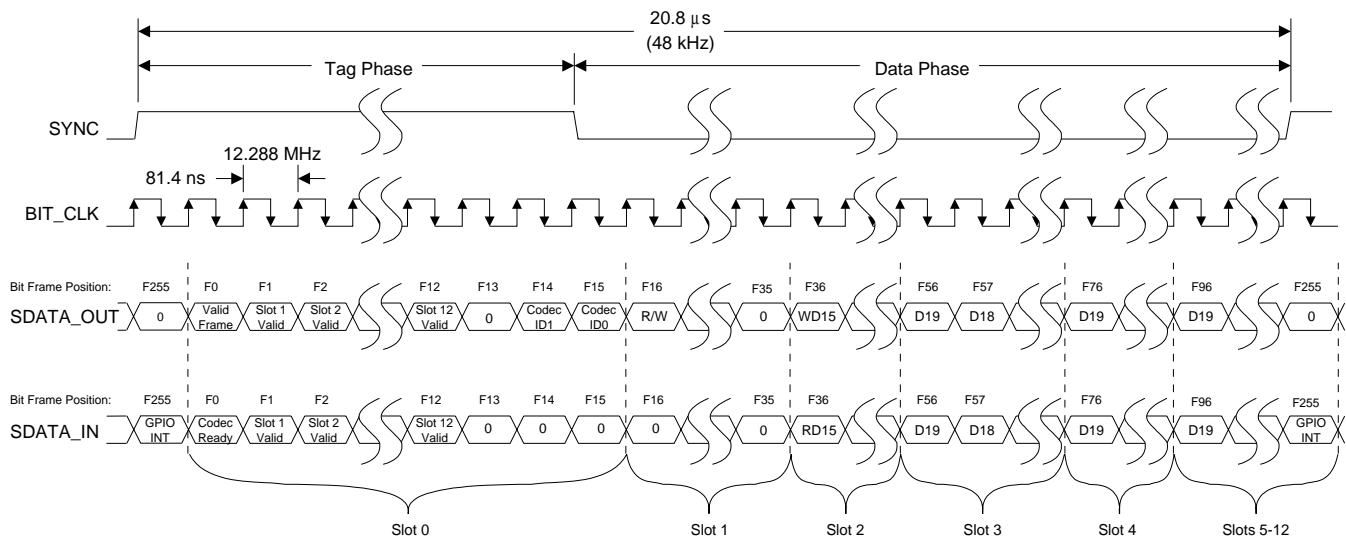

Figure 9. AC-link Input and Output Framing
The controller synchronizes the beginning of a frame with the assertion of the SYNC signal. Figure 9 shows the position of each bit location
In the serial data output frame, data is passed on the SDATA_OUT pin to the CS4202 from the AC '97 controller. Figure 9 illustrates the serial port timing.
- $\overline{R/W}$ Read/Write. When this bit is 'set', a read of the AC '97 register specified by the register index bits will occur in the AC '97 2.x audio codec. When the bit is 'cleared', a write will occur. For any read or write access to occur, the Valid Frame bit (F0) must be 'set' and the Codec ID[1:0] bits (F[14:15]) must match the Codec ID of the AC '97 2.x audio codec being accessed. Additionally, for a primary codec, the Slot 1 Valid bit (F1) must be 'set' for a read access and both the Slot 1 Valid bit (F1) and the Slot 2 Valid bit (F2) must be 'set' for a write access. For a secondary codec, both the Slot 1 Valid bit (F1) and the Slot 2 Valid bit (F2) must be 'cleared' for read and write accesses. See Figure 9 for bit frame positions.
In the serial data input frame, data is passed on the SDATA_IN pin from the CS4202 to the AC '97 controller. The data format for the input frame is very similar to the output frame. Figure 9 on page 15 illustrates the serial port timing.